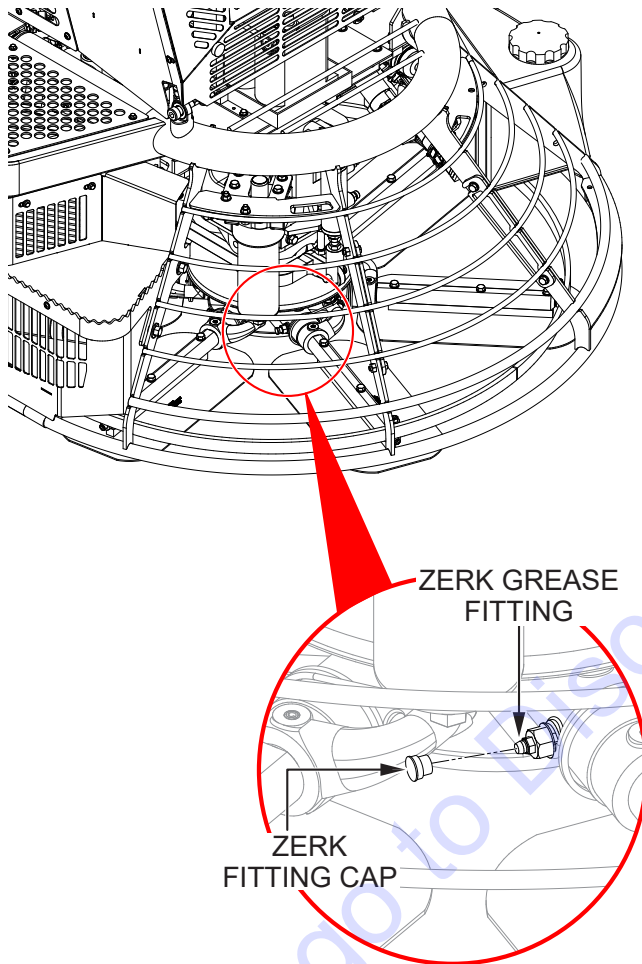

Figure 44. Spider Lubrication
1. Locate one of the Zerk grease fittings on either spider assembly (Figure 44). Remove the Zerk fitting cap and set it aside.